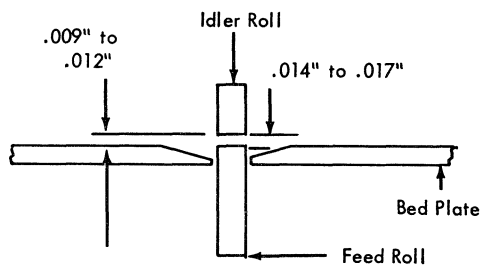

Figure 1-13. Auxiliary Feed and Idler Roll Adjustment
2. Position the idler roll 0.009" to 0.012" above the read-station bed plate by moving the idler-roll mounting plate (Figure 1-13).
4. Move the magnet assembly up or down on the mounting bracket to obtain 0.014" to 0.017" clearance between the feed roll and its idler roll (Figure 1-13).